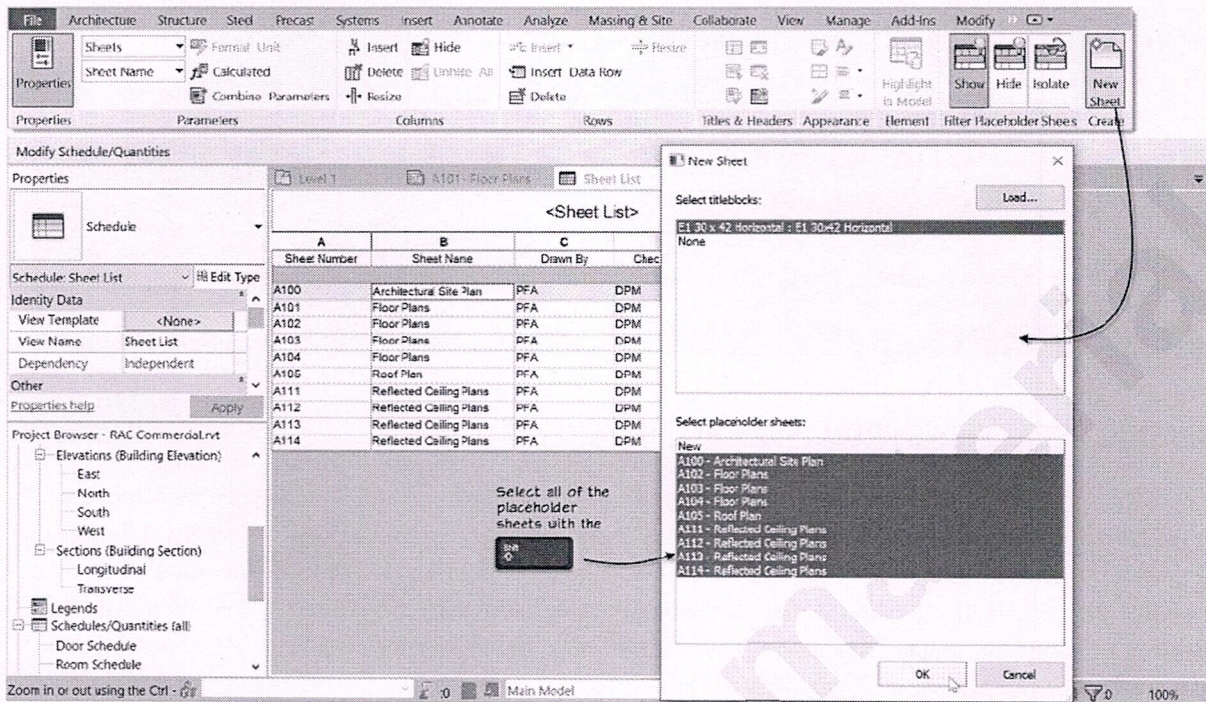

FIGURE 5.47 Create several sheets at once using placeholder sheets
2. Select A100 in the list. Hold down the **SHIFT** key and then select A114 and then click OK (see Figure 5.47).